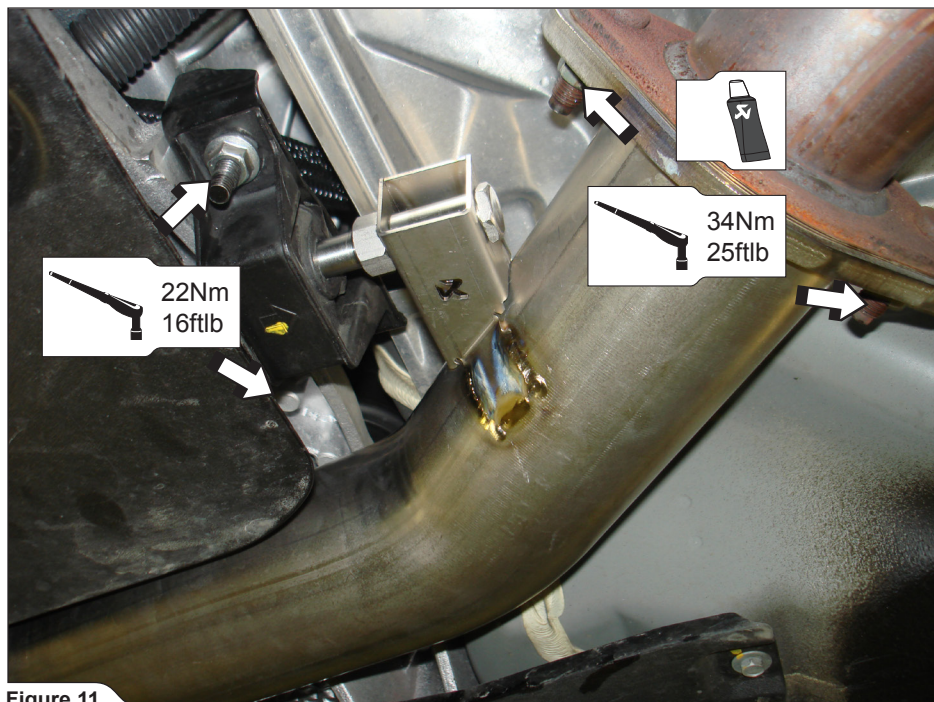

Figure 11
2. Tighten the Akrapovič link pipe onto the vehicle to a specified torques, using original nuts (Figure 11, 12).